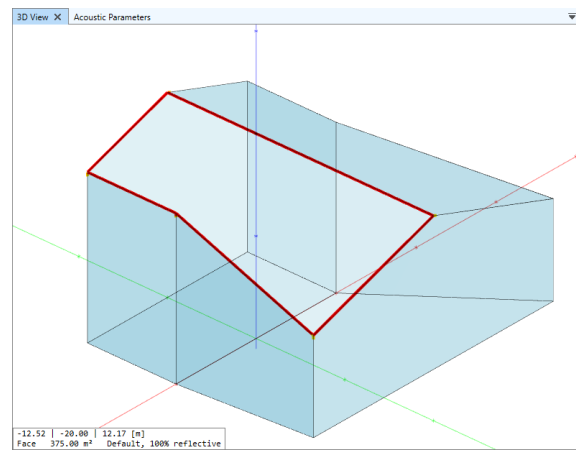

Figure 7.33 Hole outlines mode outlines missing or inverted faces in red.
2. Check for holes in the surface of the room using the PRESENTATION > GEOMETRY ANALYSIS > HOLE OUTLINES mode (Figure 7.33). Missing parts or inverted faces will be indicated with a red border.